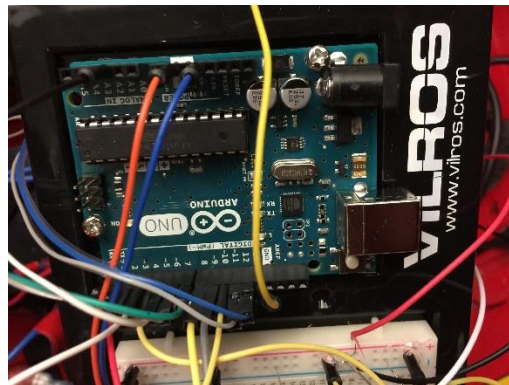
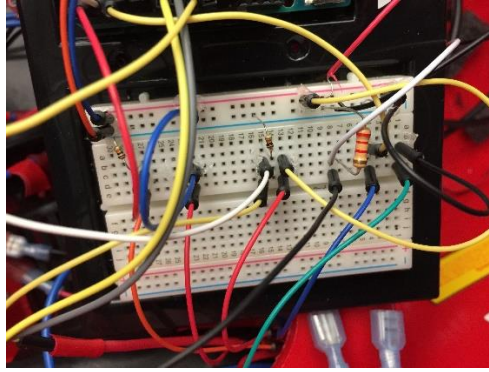
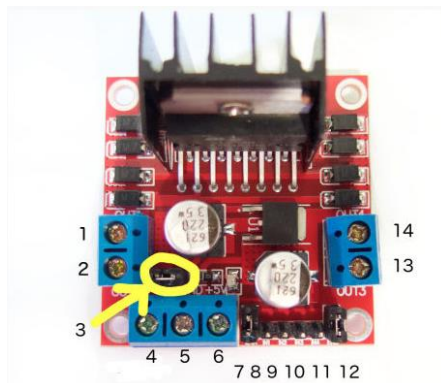

Figure 3: Arduino Set-Up
Figure 4: Breadboard Set-Up
Figure 5: L298N Schematic
1. Attach the provided wire pins and 10k ohm resistors from the Arduino kit to the Arduino and bread board seen in figure 3 and figure 4 below:
2. For the steering motor driver, attach 4 male connected wires to ports 4,5,13 and 14 with the stripped ends (reference figure 5)
4. Connect the wires from the Arduino set-up in figure 3 to the steering motor driver with the following configuration (reference figure 3 to figure 5):
- a. Pin 10 (figure 3) to position 12 (figure 5)
6. Connect the wires from the Arduino set-up in figure 3 to the accelerator motor driver with the following configuration (reference figure 3 to figure 5):
1. Attach the wires in 4 and 5 (figure 5) to the 12 V battery with 4 going to positive and 5 going to negative for both motor drivers